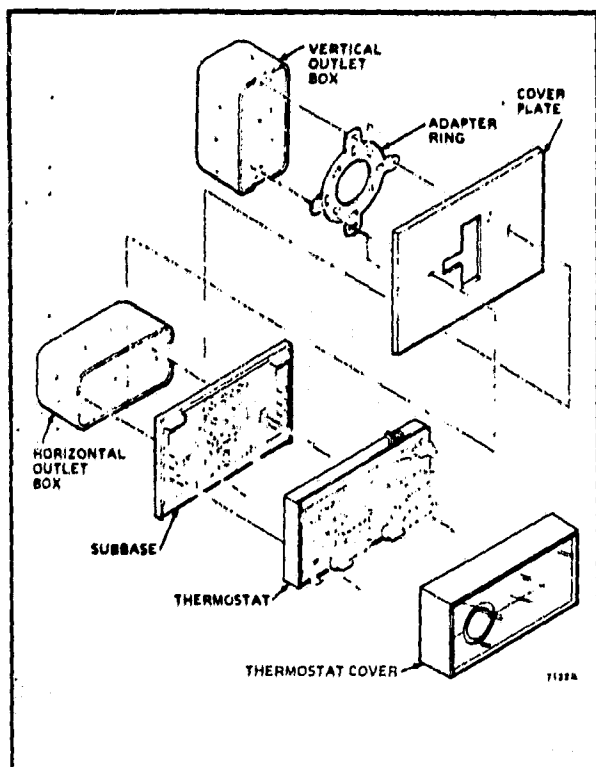

FIG. 2—INSTALLATION OF Q672 SUBBASE ON OUTLET BOX.
3. If mounting the subbase on a vertical outlet box (Fig. 2), install the adapter ring with the 2 screws provided.